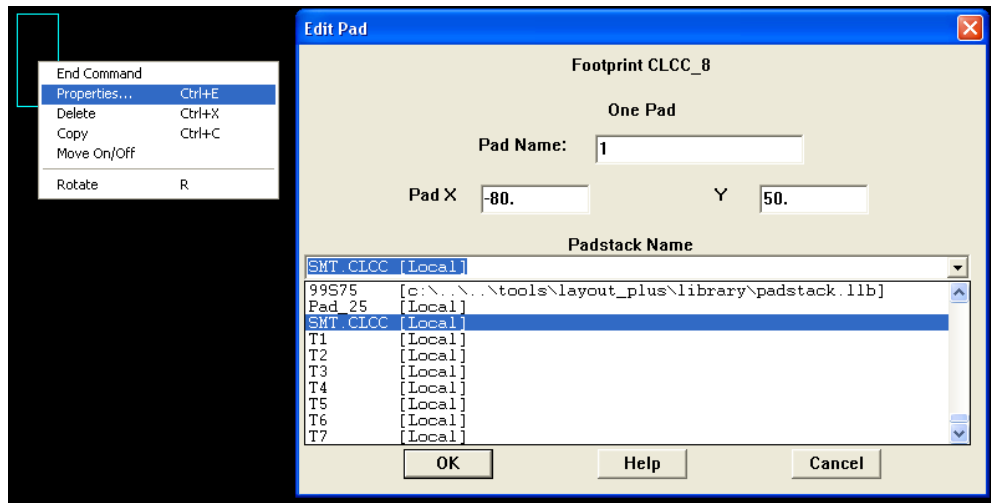

Figure 3.12: Adding New Pads
16. Right Click the screen, then Click → **Properties** (See Figure 3.12)